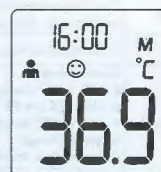

Figure 6
2. The thermometer will automatically memorize the last 10 temperature readings. Each memory also records the measurement date/time/mode icon. Each time the **⏻** BUTTON is pressed, the screen displays past readings that correspond with a number 1-10. The number 1 reflects the most recent reading, while the number 10 reveals the oldest reading stored in memory. (See Figure 6)